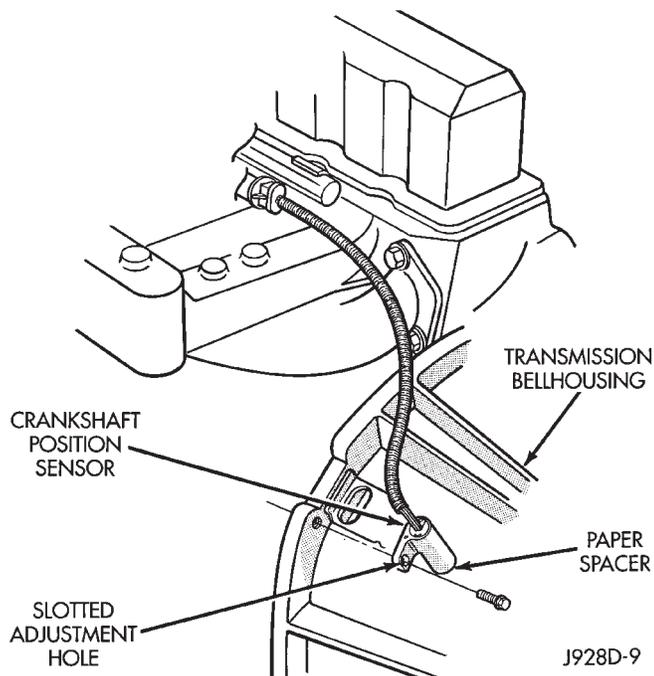

Fig. 7 Crankshaft Position Sensor—4.0L Engine—YJ models With Automatic Transmission
On YJ models with a 4.0L engine and automatic transmission, the sensor uses a single slotted hole to adjust its depth. A paper/cardboard type spacer with self-adhesive (Fig. 7) is attached to the bottom of the sensor to set this depth. After the engine has been started (and after sensor installation), this temporary spacer will be sheared off. New factory replacement sensors are equipped with this spacer. If the original sensor is to be reinstalled, such as with transmission and/or flywheel removal, a new spacer **MUST** be installed.
- (1) Be sure the paper/cardboard spacer (Fig. 7) has been installed to the bottom of the new sensor.
- (2) Position sensor to transmission bellhousing and install mounting bolt finger tight.
- (3) Gently seat (push down) the sensor until the paper spacer contacts the outer edge of the flywheel.
- (4) Tighten sensor mounting bolt (Fig. 7) to 17-to-21 N·m (13-to-16 ft. lbs.) torque.
- (5) Connect the electrical connector to sensor.
- (6) Install the clip to sensor wire harness.
- (7) Install clip over fuel rail mounting stud. Install clip mounting nut.